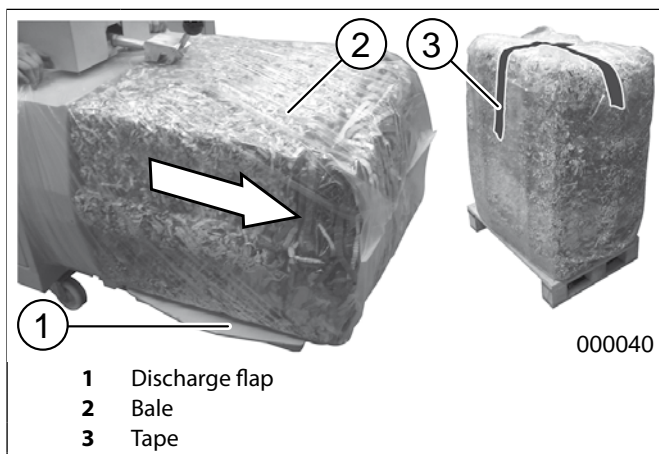

fig. 19 Ejecting the bale
3. Press and hold the "Advance Ram" key (fig. 13/1). The completed, tied off bale is ejected into the plastic sack and is pushed onto the discharge flap (fig. 19).
5. Fold the end of the sack together and seal with tape (fig. 19/3). The bale can now be removed.
2. Press the bale into the plastic sack and onto the discharge flap (fig. 19) by activating the "Advance Ram" key (fig. 13/1).
3. Fold the end of the sack together and seal with tape (fig. 19/3). The bale can now be removed.